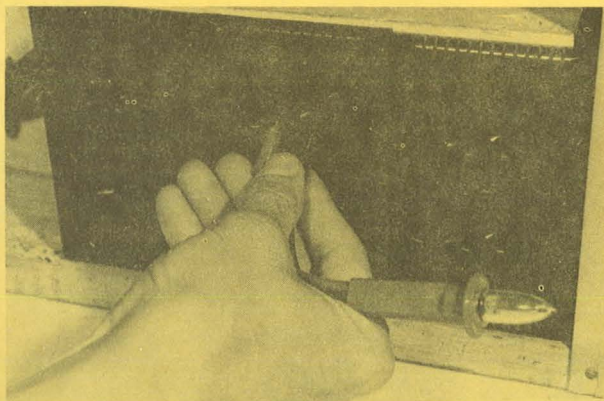

Figure 1
1. Test the wall outlet to see if electricity is coming that far (Fig. 1). Put the terminals of the test light into the outlet. If it lights, power is coming into the wall outlet and the trouble is in the lamp.
Suppose when testing the wall outlet (Fig. 1) you discover that power is not coming to the outlet.